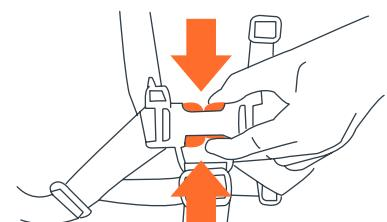

Fig. 14b
- To release, apply pressure to both sides of each male clip until the clip is released (Fig. 14b). This process requires a moderate amount of effort so as to prevent an accidental release by your child.